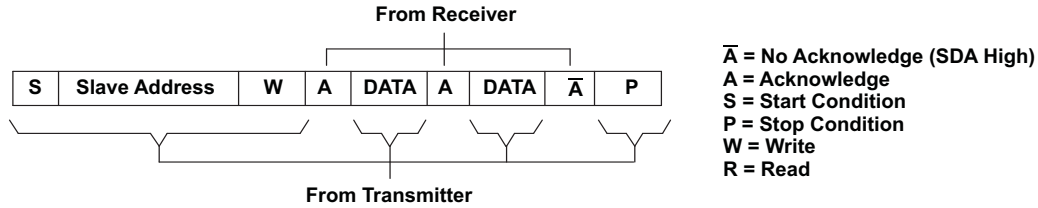
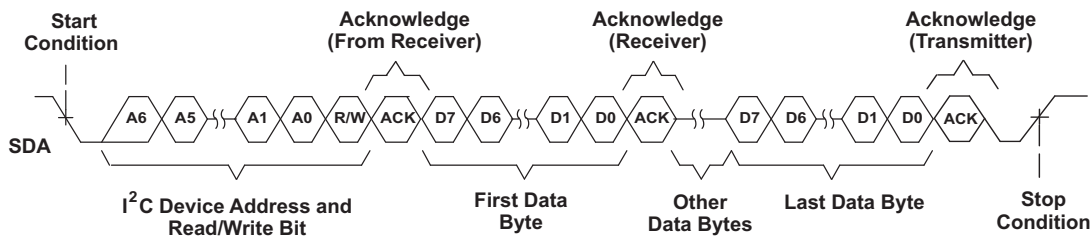
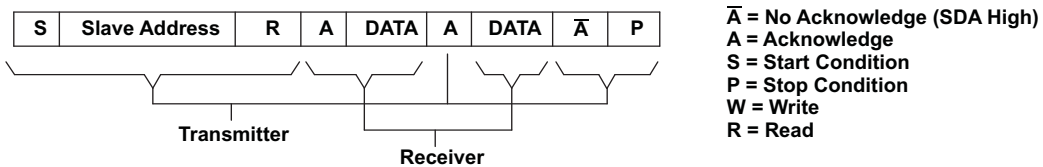
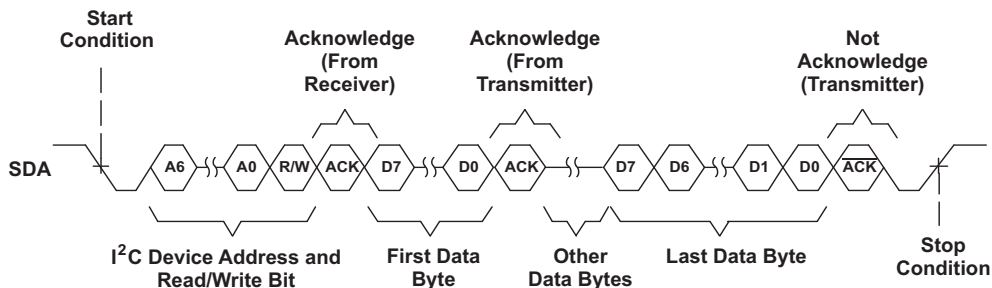

Figure 9. I²C Write Cycle
Figure 10. Multiple Byte Write Transfer
Figure 11. I²C Read Cycle
Figure 12. Multiple Byte Read Transfer
During a write cycle, the transmitting device must not drive the SDA signal line during the acknowledge cycle, so that the receiving device may drive the SDA signal low. After each byte transfer following the address byte, the receiving device pulls the SDA line low for one SCL clock cycle. A stop condition is initiated by the transmitting device after the last byte is transferred. Figure 9 and Figure 10 show an example of a write cycle. Note that the THS7347 does not allow multiple write transfers to occur. See the example, Writing to the THS7347, in WRITE AND READ EXAMPLES for more information.
During a read cycle, the slave receiver acknowledges the initial address byte if it decodes the address as its address. Following this initial acknowledgment by the slave, the master device becomes a receiver and acknowledges data bytes sent by the slave. When the master has received all of the requested data bytes from the slave, the not acknowledge (\bar{A}) condition is initiated by the master by keeping the SDA signal high just before it asserts the stop (P) condition. This sequence terminates a read cycle, as shown in Figure 11 and Figure 12. Note that the THS7347 does not allow multiple read transfers to occur. See the example, Reading from the THS7347, in WRITE AND READ EXAMPLES for more information.
The THS7347 operates using only a single-byte transfer protocol similar to that illustrated in Figure 9 and Figure 11. The internal subaddress registers and the functionality of each are given in Table 2. When writing to the device, it is required to send one byte of data to the corresponding internal subaddress. If control of all three channels is desired, then the master must cycle through all the subaddresses (channels) one at a time; see the example, Writing to the THS7347 (in WRITE AND READ EXAMPLES) for the proper procedure of writing to the THS7347.